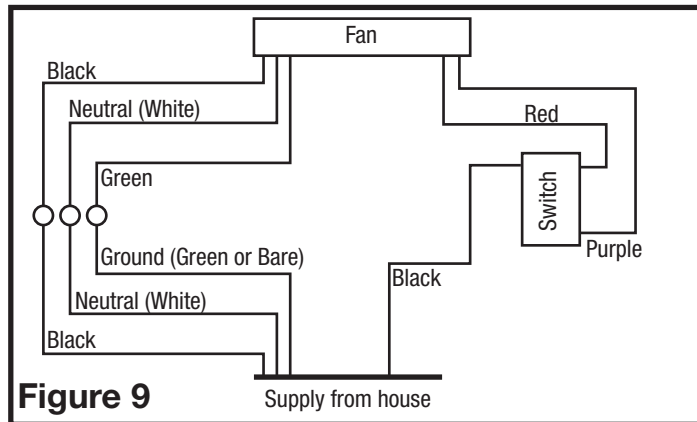

Figure 9
3. Secure the electrical wires to the housing with an approved electrical connector. For two speed fans wired for continuous ventilation, connect the White wire of the fan to the White (Neutral) wire from the power source. Connect the ground wire from the house to the Green wire from the fan housing. Connect the Black wire of the fan to the Black wire (Hot) from the power source. The fan will operate on low speed continuously and boost to high speed when motion is detected. Using a properly grounded standard duplex toggle switch (such as Leviton 5224-2W, not included) connect the black wire from the supply to one side of the top and bottom switch. Connect the red wire (light) from the fan housing to the other side of the top switch and connect the purple wire (night light) from the fan housing to the other side of the bottom switch. A manual override switch (not included) can be used to provide a manual fan Off function (Figure 9).